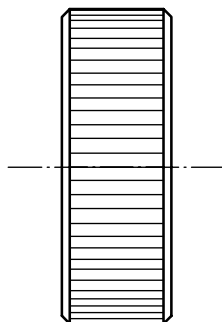

Figure A.1 — Straight knurling type A
- a) straight knurling type A (see Figure A.1);